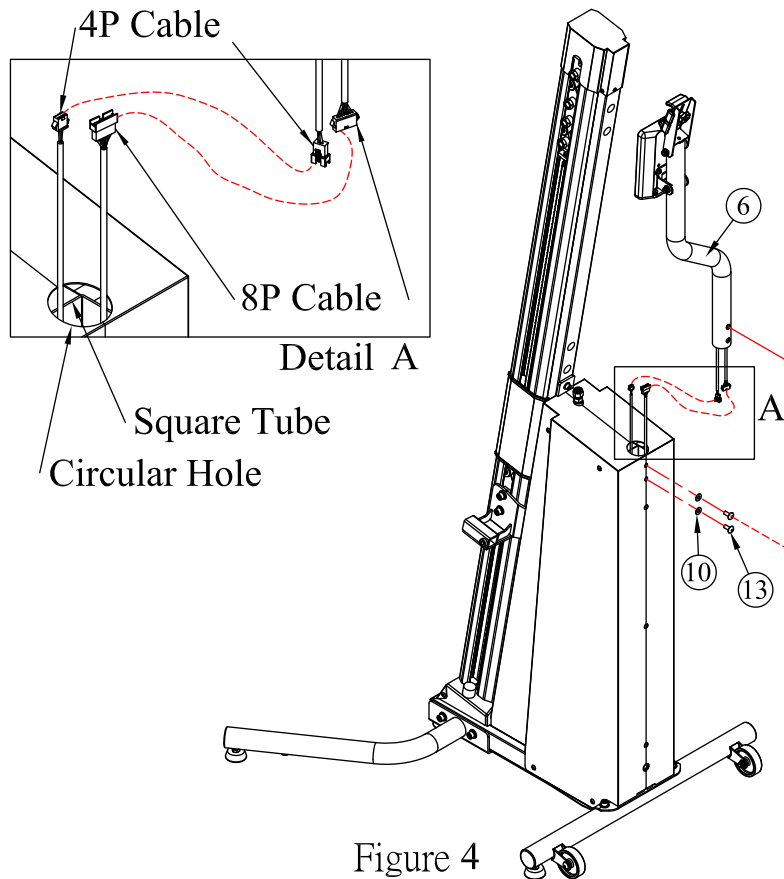

Figure 4
- (A) Gently pull out the 4P Cable and 8P Cable wires from the base frame assembly's (#1) circular hole and connect them with the appropriate cables from the console stem (#6) as shown in Figure 4 and Detail A.
- (B) Careful not to pinch/cut any wires, gently slide console stem (#6) into the circular hole and square tube of base frame assembly (#1). Please ensure to gently put extra wiring into the circular hole/square tube while assembling and do not let any wires get pinched or cut. Then, tighten console stem (#6) base frame assembly (#1) with flat washer (#10) and button head allen bolt (#13) as shown in Figure 4.